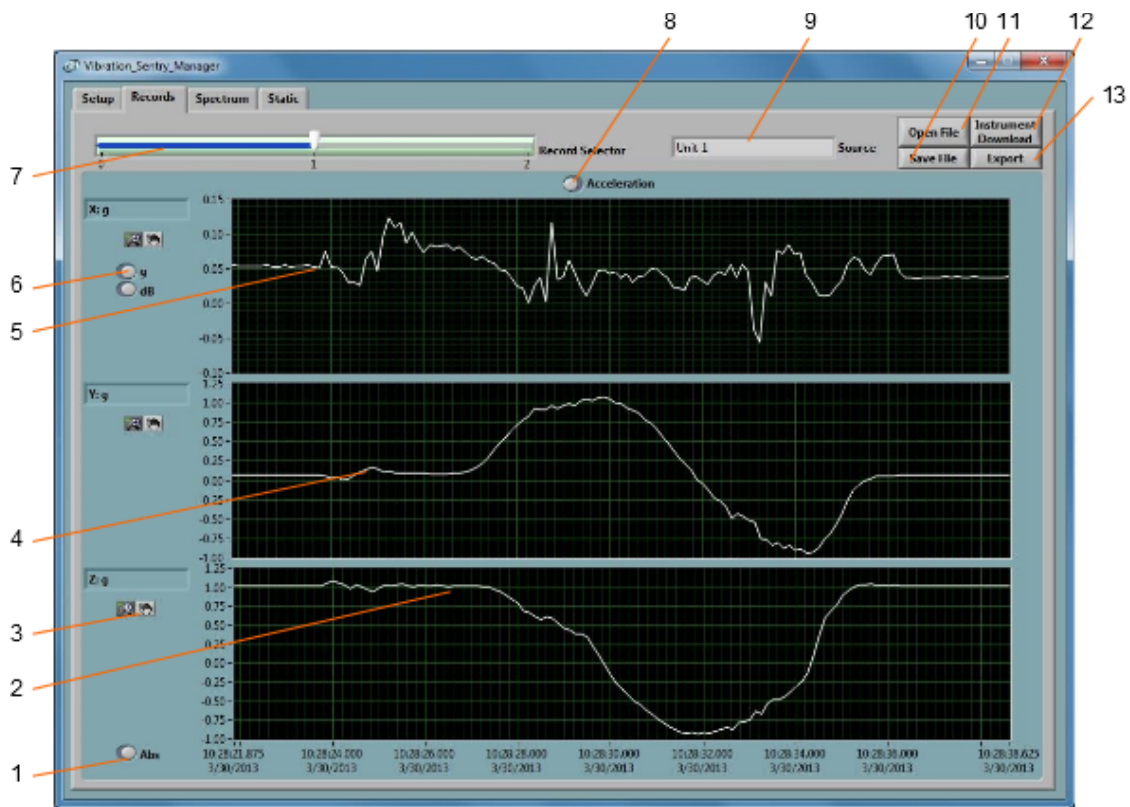

Figure 6 Record Tab
- **The Records Tab:** Is used to download, display and export the data from the Vibration Sentry E (see Figure 6).